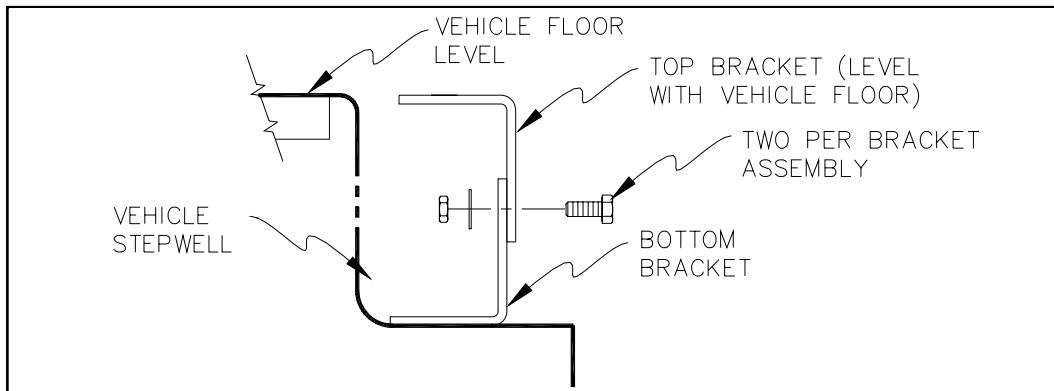

FIGURE 2-3: STEPWELL BRACKET
- a. Refer to **Figure 2-3**. Use four 1" x 3/8" bolts, 3/8" washers, 3/8" lock washers, and 3/8" hex nuts to assemble two bracket assembly kits.